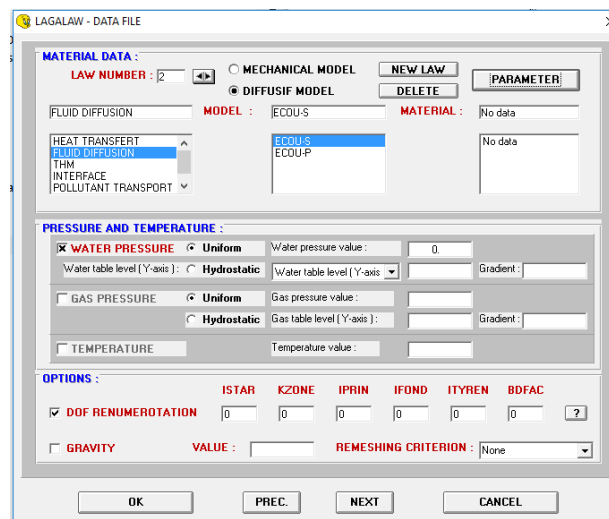
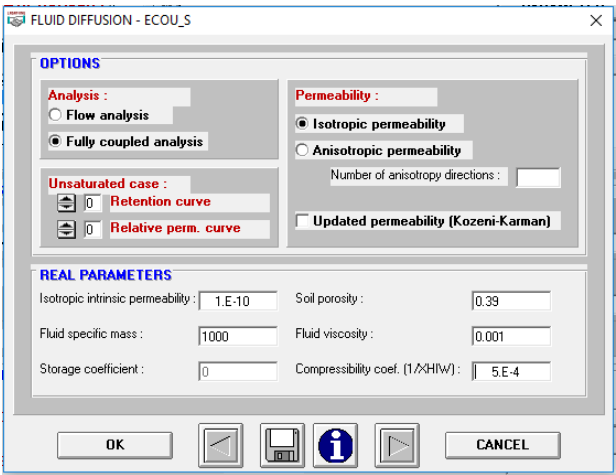

Figure 7.4 Selection of the flow law in LAGALAW.
Figure 7.5 Hydraulic parameters LAGALAW.
- The initial pore pressure must be specified in the main window of LAGALAW (see Figure 7.4). The pore water pressure is either uniformly defined by a single reference value, or by a hydrostatic distribution with a gradient and a starting value given by the user.
- The flow law for the CSOL2 elements is defined in LAGALAW by selecting *Diffusive model*, and then *Fluid diffusion* with the model *ECOU-S* (Figure 7.4). Fill the hydraulic parameters as shown in Figure 7.5: the porosity, the intrinsic hydraulic conductivity, the fluid specific mass (water in this case) and the water compressibility. Select the *Fully coupled analysis* option to simulate the hydro-mechanical behavior. Be careful that the intrinsic permeability must be provided and not the permeability coefficient. More features and explanations of this diffusive law are detailed in the manual Lawther.